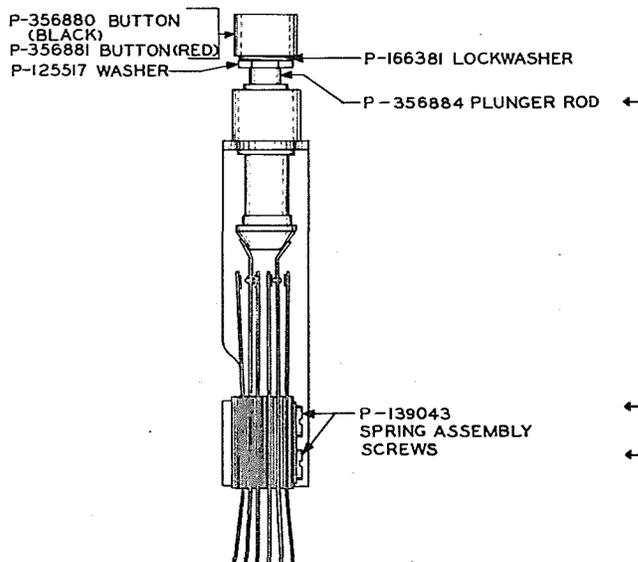

Fig. 1 - 547-type Key (No. 547B Illustrated)
3. To revise Fig. 1 to add piece-part numbers for the plunger rod and spring assembly screws.